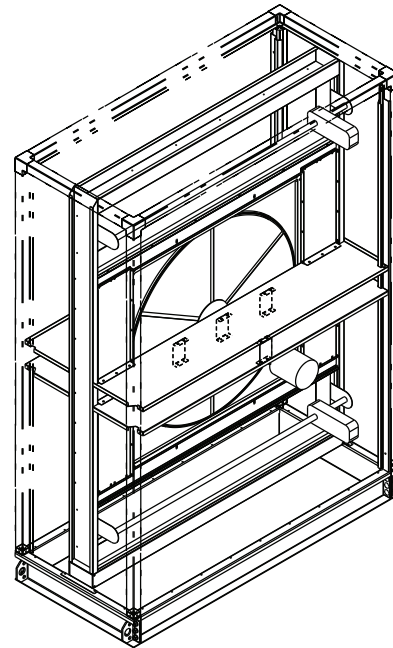

Fig. 182 — Remove Side Baffles
1. Access the wheel from the exhaust fan side. This may be easiest from the adjoining section, depending on the type of section installed. If it is necessary to access from the side of the wheel section, remove side panel as shown in Fig. 182.